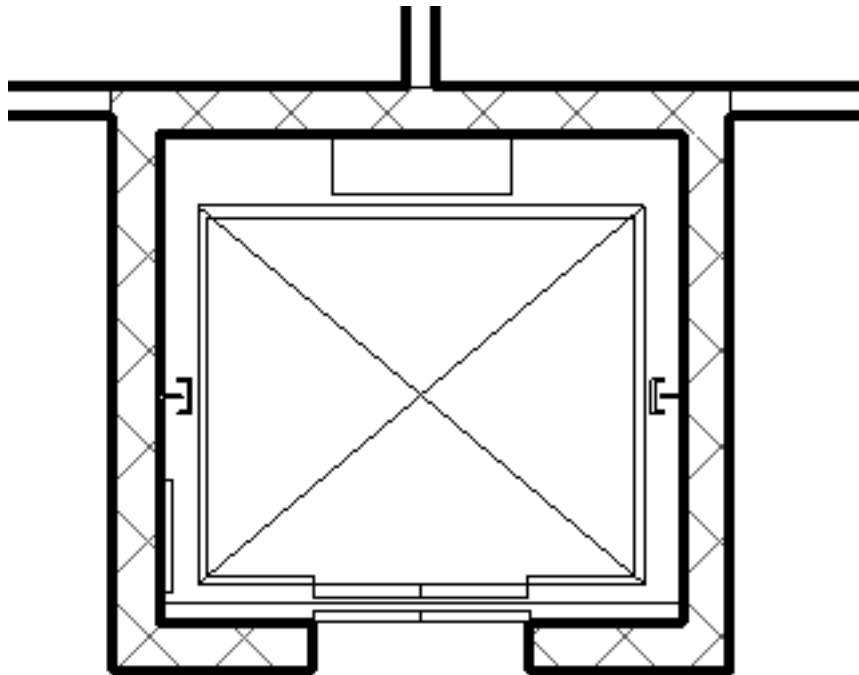

Figure 3-4.8b Elevator door added to plan
23. Place the elevator door at the center of the wall, aligned with the elevator door on the cab (Figure 3-4.8b).